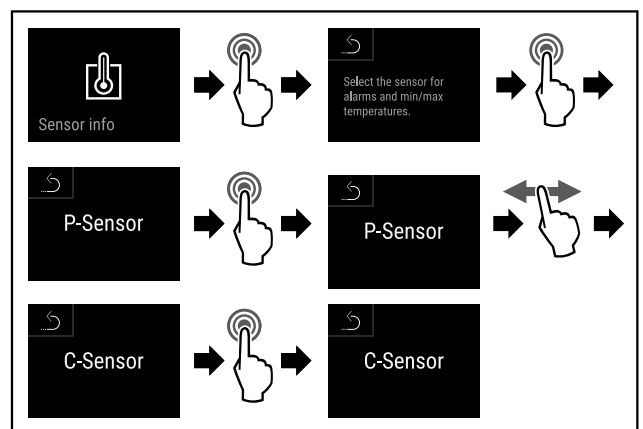

Fig. 166
- ▶ Complete steps (see Fig. 166) .